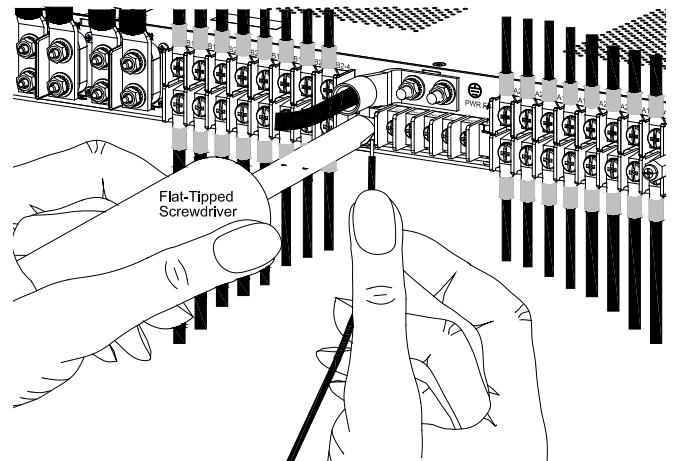

Figure 12 - Installing Alarm Wiring
33. If possible, temporarily replace one of the operable GMT fuses with a blown fuse to check that the **FUSE ALARM** LED lights red. Also, check the **FUSE ALARM** terminals on the rear of the panel. If desired, connect the remote external audio/visual alarm indicator wires (solid or tinned wires, #20 to #12 AWG) to the **PWR FAIL** and **FUSE ALARM** terminals, as shown in Figure 12.